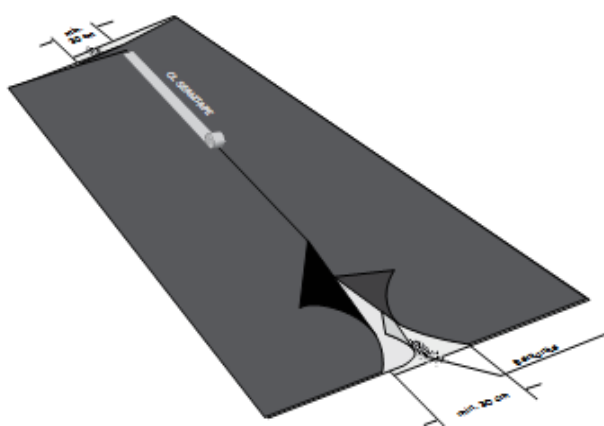

Fig. 10B: Longitudinal seams with Claymat CL seamtape
10. For applications where **Claymat CL** or **CTL** with a thick membrane has been specified **ABG** recommends welding the seams for a higher factor of safety against leakage. The minimum thickness of geomembrane which can be welded is 1.0 mm. GBR-Cs with weldable geomembranes have longitudinal and end-of-panel margins which are not glued allowing for simple seam execution. The seams should be executed as per **Figure 10B&11B** but with geomembrane welding instead of using tape.